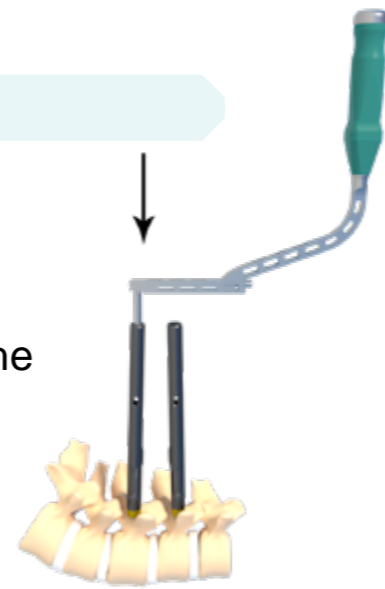

FIG 9a
- According to arrow direction, Align the the rod and connector, then put it down until it touches the tail of the screw or until the head of the rod needs to be located under the fascia (Figure 9a).